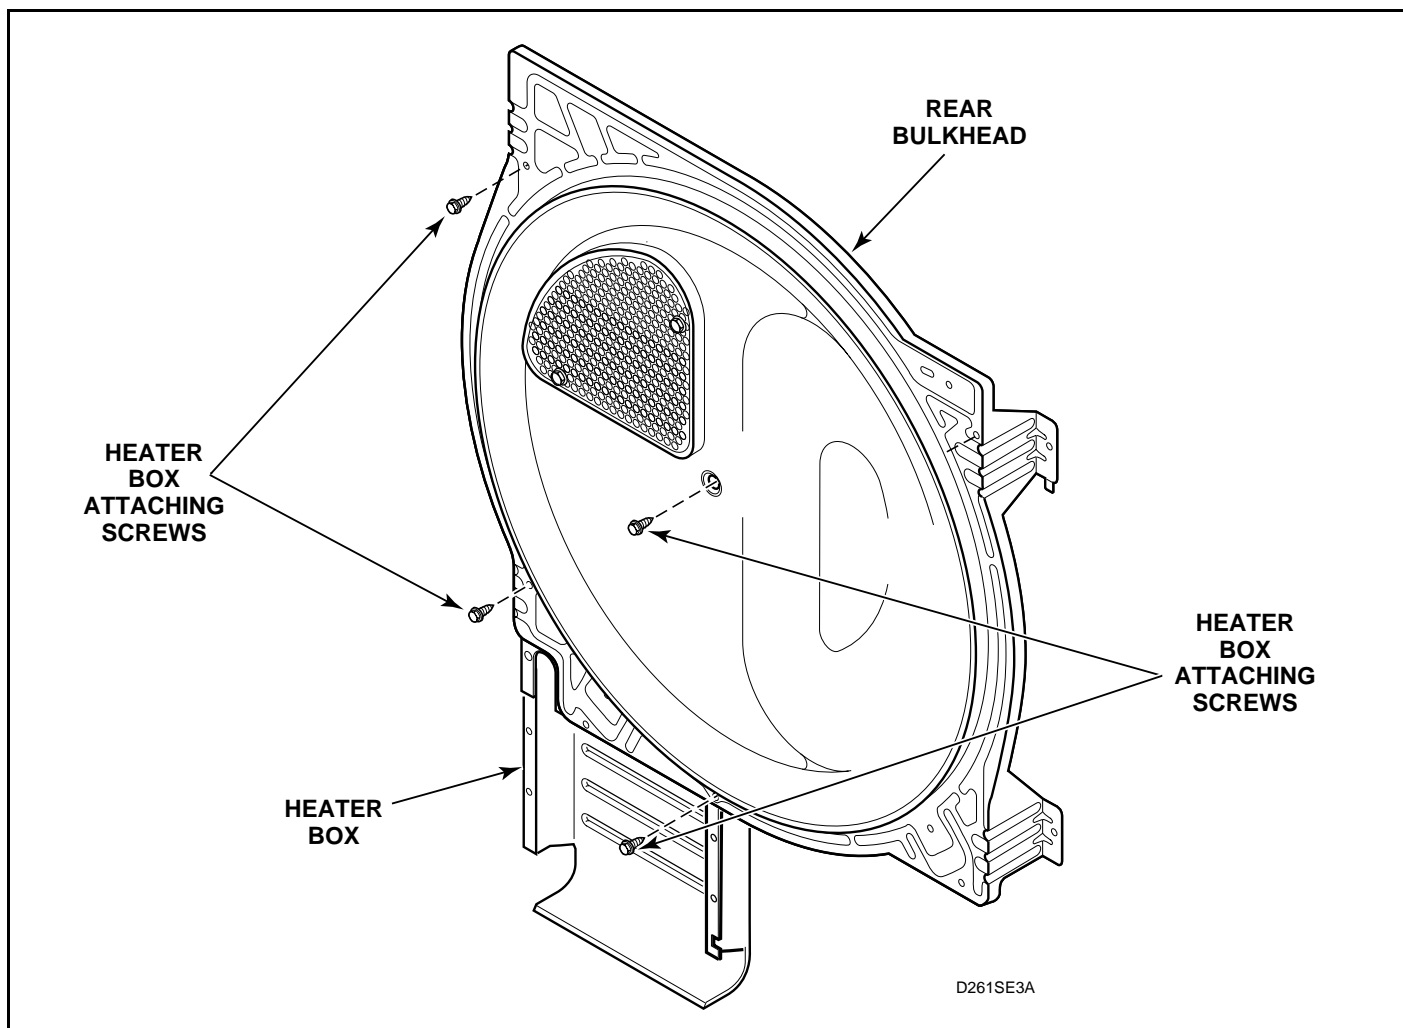

Figure 53
- l. Remove heater box from rear bulkhead. See *Figure 53*.